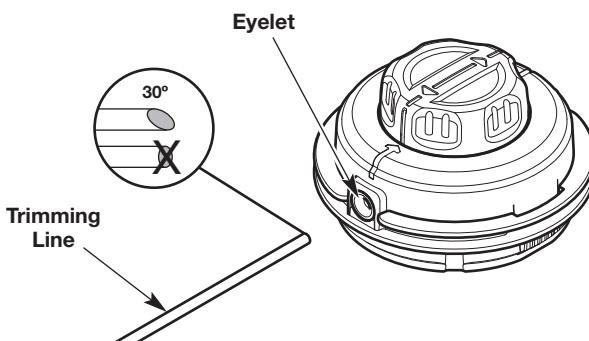
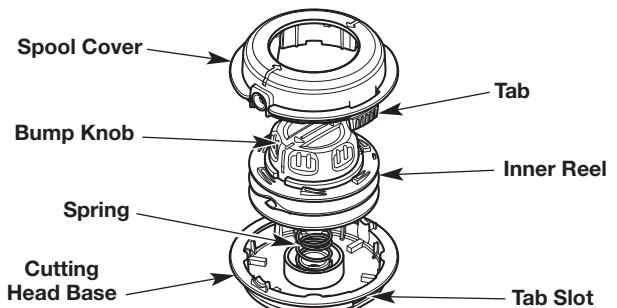

Fig. 21
Fig. 24
2. Cut two 10-foot (3.0 m) lengths of new trimming line. Cut one end of each line at a 30 degree angle (Fig. 21).
4. Insert one of the lines into an eyelet on the cutting head (Fig. 21). Use the angled end and push the line in about 3 inches (7.5 cm). Repeat this process with the other line and remaining eyelet.
- c. While holding the screwdriver in place, gently twist the screwdriver to unlock the tab from the tab slot (Fig. 24).
- d. Remove the spool cover (Fig. 24). **DO NOT** remove the spring from the cutting head base (Fig. 24).
- e. Push the bump knob through the spool cover. (Fig. 24). If the eyelets come off, reinsert the eyelets on the spool cover (Fig. 21).
**NOTE: DO NOT** separate the bump knob from the inner reel (Fig. 24).
- g. Use a clean cloth to clean the inner reel, cutting head base and spool cover (Fig. 24).
- h. Insert the bump knob and inner reel into the spool cover (Fig. 24).
- i. Align the tabs on the spool cover with the tab slots on the cutting head base (Fig. 24). Push the spool cover onto the cutting head base until the tabs securely snap into place.